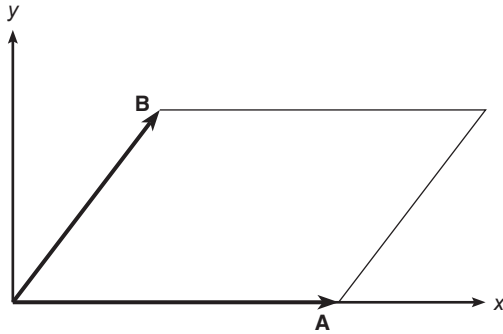

Figure P33
33. The area of a parallelogram can be computed from $|\mathbf{A} \times \mathbf{B}|$, where \mathbf{A} and \mathbf{B} define two sides of the parallelogram (see Figure P33). Compute the area of a parallelogram defined by $\mathbf{A} = 5\mathbf{i}$ and $\mathbf{B} = \mathbf{i} + 3\mathbf{j}$.